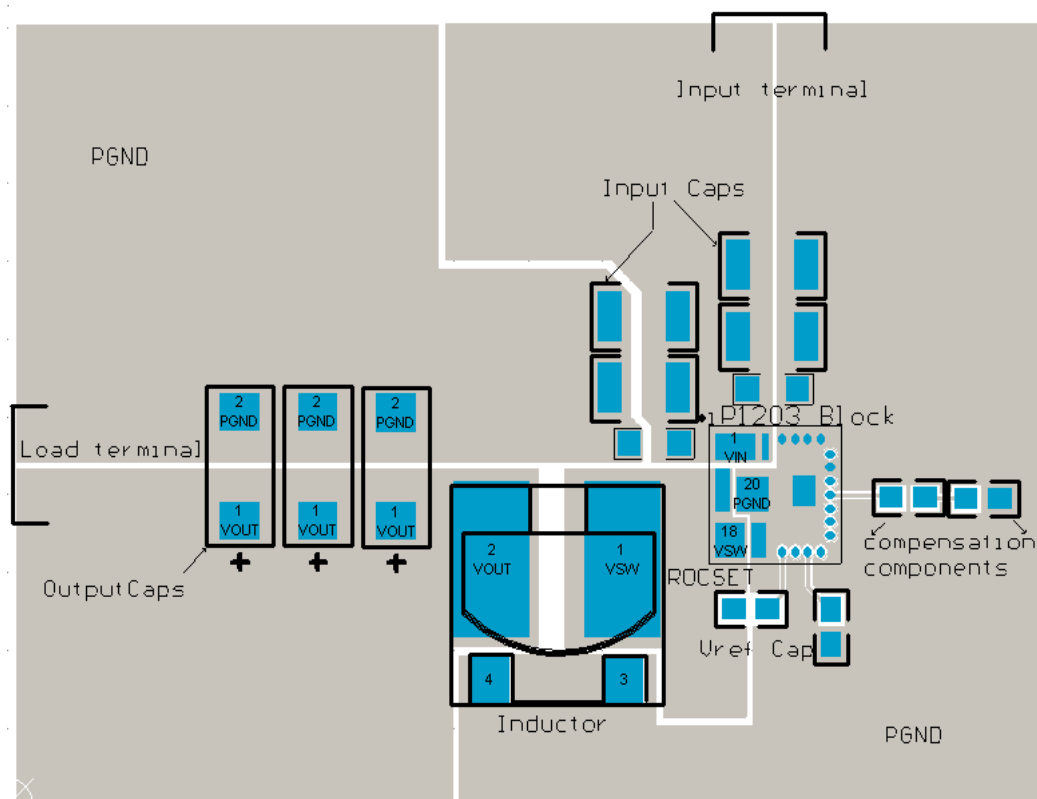

Fig. 23: iP1203 Suggested Layout
1. Follow the layout scheme presented in Fig. 23. Make sure that the output inductor L is placed as close to iP1203 as possible to prevent noise propagation that can be caused by switching of power at the switching node Vsw, to sensitive circuits.